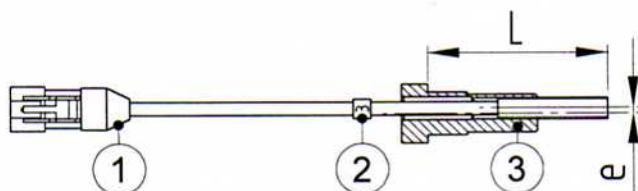
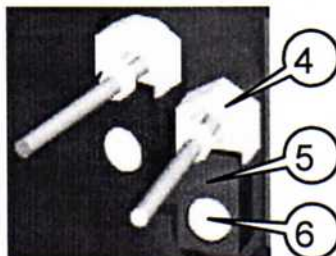

Figure 12.17 Sensor assembly
Figure 12.18
The sensors are pre-fitted in calibrated seats to enable them to be quickly fitted to the electro-spindle at the correct depth. For this reason always make absolutely sure what sensor you need to replace. The cables of the sensors installed in the electro-spindle and of those provided as spares are all tagged with a number ring to facilitate identification (Figure 12.17).
Refer to figures Figure 12.17 and Figure 12.18, and proceed as follows to replace the sensors.
1. Remove screw (6) securing the bracket (5) of the sensor to be replaced (4).
2. Pull the faulty sensor out from its housing and disconnect its electrical connector (1).
4. Replace bracket (5) and replace and tighten screw (6). Do not fully tighten yet. Leave it loose enough to turn the sensor for calibration as described in sections 12.2.4.7 , 12.2.4.8 and 12.2.4.10 .
**When reading sections from 12.2.4.7 to 12.2.4.10 on sensor calibration, always refer to the position numbers in Figure 12.17 and Figure 12.18.**